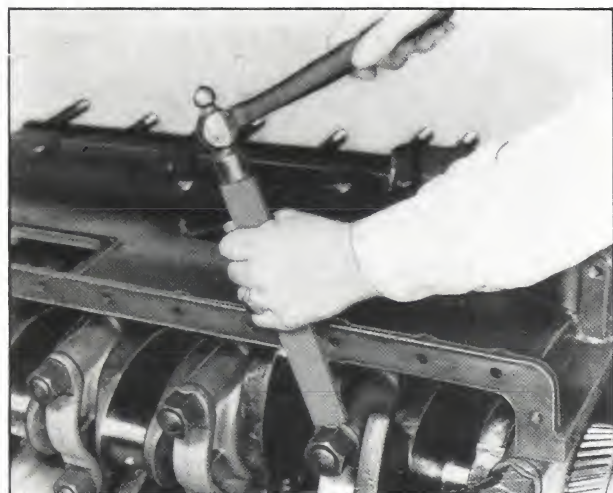

Fig. 2-49. Lock plates and stud nuts
15. Bend each of the lockplates up against two flat sides of its main bearing stud nut. Fig. 2-49.